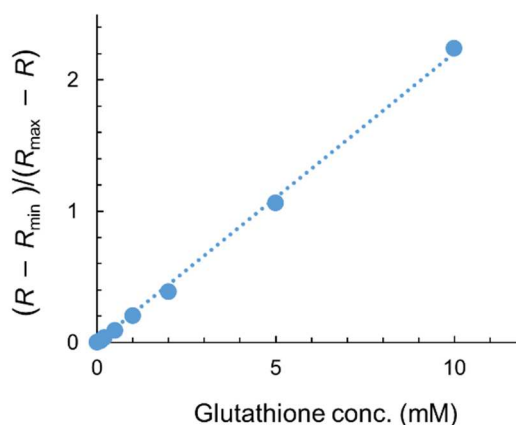

Figure 3. An example of a standard curve
5. Analyze the fluorescence intensity (FI) of the images. Use software which will be applied for measuring FI of cells and measure FI in the center area of the images³. For each GSH concentration and each wavelength, draw an ROI (region of interest) with the same size and position, and measure FI in the ROI. If you exported images for the analysis, save images with the highest bit-depth (such as a 16-bit TIFF format)⁴. Refer the manual of the software you use for the details.
7. Put R_{\min} to the R -value of 0 mM GSH, and R_{\max} to the R -value of 50 mM GSH. Calculate $(R - R_{\min}) / (R_{\max} - R)$ at each concentration. Plot these values against GSH concentrations (**Figure 3**).